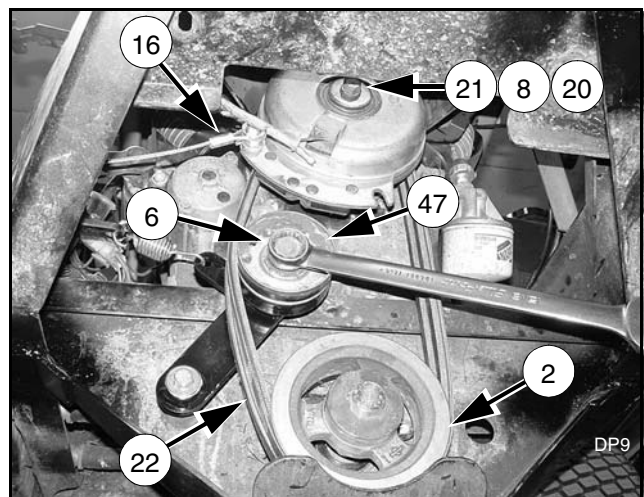
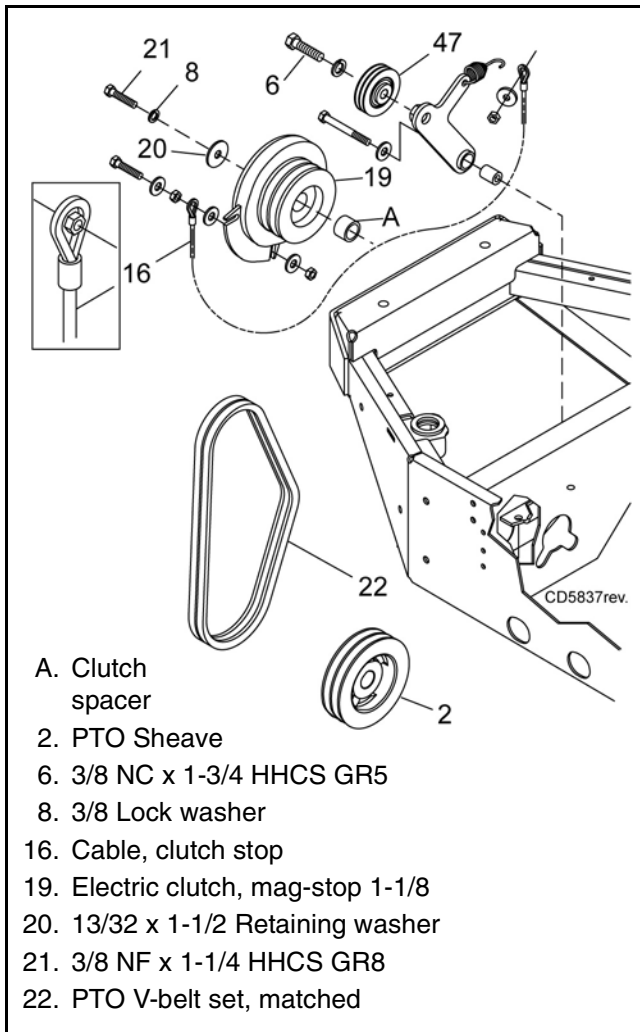

Figure 14. Clutch and Sheave Assembly
Figure 15. Clutch Assembly
Remove Components (Figure 14 & Figure 15)
NOTE: Photo in Figure 14 was taken from underneath the power unit for clarification. All work can be performed from above.
3. Secure clutch to engine shaft using 3/8 NF cap screw GR8 (21) and lock washer (8) previously removed (Figure 15).
1. Install PTO V-belts (22) over PTO sheave (2) and clutch (19).
2. Attach clutch cable (16) to clutch (19) using hardware previously removed. Make sure nut is inside of loop of cable and between washers. Cable must pivot freely, (see Figure 15).